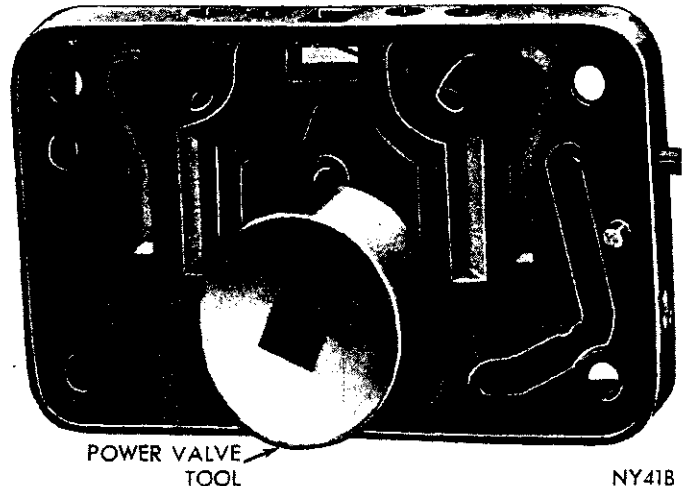

Fig. 7—Removing or Installing Power Valve
(1) Using Tool C-3747, remove power valve assembly from primary metering body (Fig. 7).
(1) Install idle mixture screws and springs in metering body. (The tapered portion must be straight and smooth. If tapered portion is grooved or ridged, a new idle mixture screw should be installed to insure having correct idle mixture control.) **DO NOT USE A SCREW DRIVER.** Turn screws lightly against their seats with fingers. Back off the number of turns counted at disassembly. Install new plastic caps with tabs against stop.
(2) Slide a new gasket over power valve and install, using Tool C-3747. Tighten securely (Fig. 7).